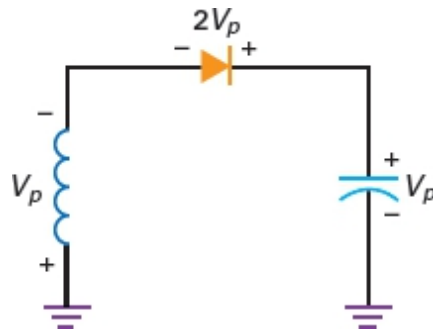

Figure-61 Peak inverse voltage in half-wave rectifier
- Figure-61 shows the critical part of a half-wave rectifier. This is the part of the circuit that determines how much reverse voltage is across the diode.